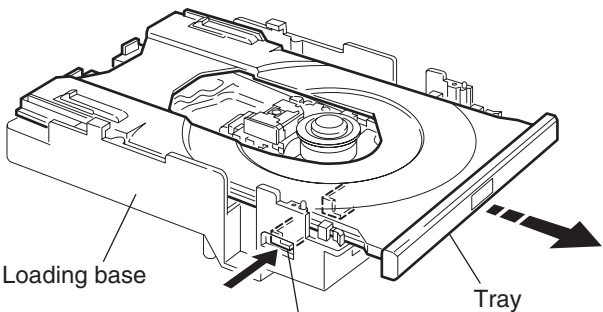

Fig.2
■ Removing the tray (See Fig.2,3)